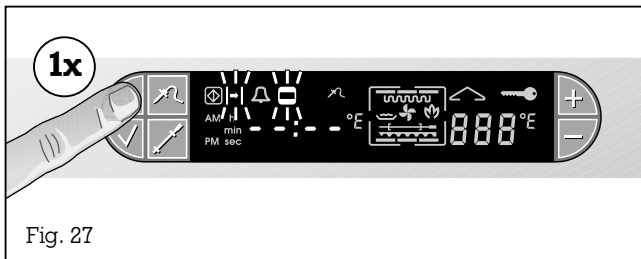

Fig. 27
- Press the ⌚ (Timer) key once. The ⏱ (Duration) symbol and the ◻ (Cooking time) symbol flash on the display. Dashes appear on the display (i.e. no value programmed) (Fig. 27).